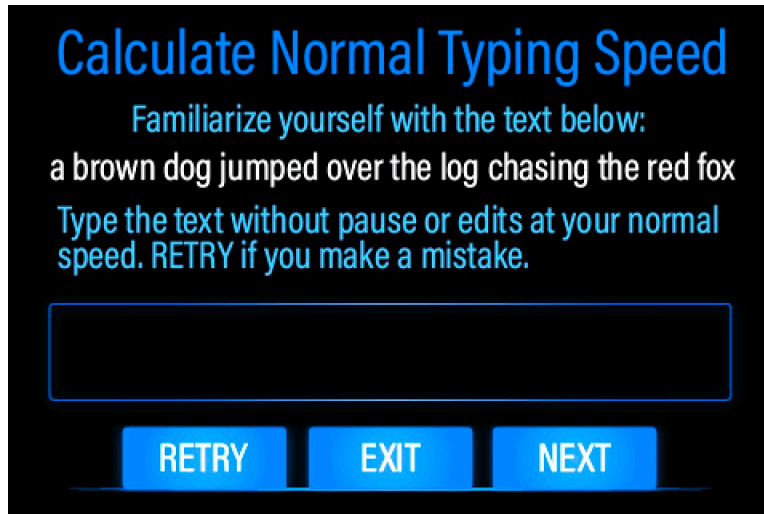

Figure 5: Typing Speed Test
7. Press the Menu button again, followed by the Typing Speed button. You will see the Typing Test screen shown in Figure 5 on the next page. Why are we taking a typing speed test now? Because you want to establish the upper limit of how fast the transmitter should be allowed to transmit Morse code, right at the start. Normally, the encoder typing speed is set by the decoder, based on the speed of the other station. However, if you can't send as fast as the other station, you need to let the computer know, so it will limit the WPM (Words Per Minute) based on your ability to type. This is important to enable well-formed Morse communications. If the transmitter is running too